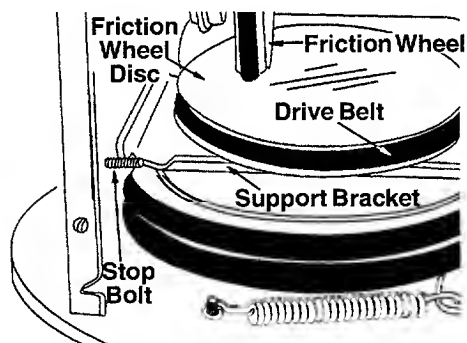

FIGURE 24
- Back out the stop bolt until the support bracket rests on the auger pulley. See figure 24.
- Slip belt between friction wheel and friction disc plate. See figure 24. Reassemble by following the instructions.
**NOTE:** The support bracket must rest on the stop bolt after the new belt has been assembled. See figure 24.